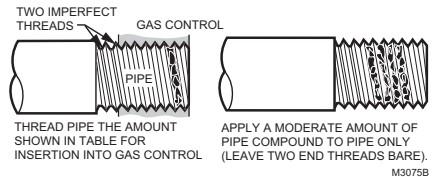

Fig. 4. Use moderate amount of pipe compound.
4. Apply a moderate amount of good quality pipe compound (do not use Teflon® tape) only to the pipe, leaving two end threads bare. On LP installations, use a compound resistant to LP gas. See Fig. 4.